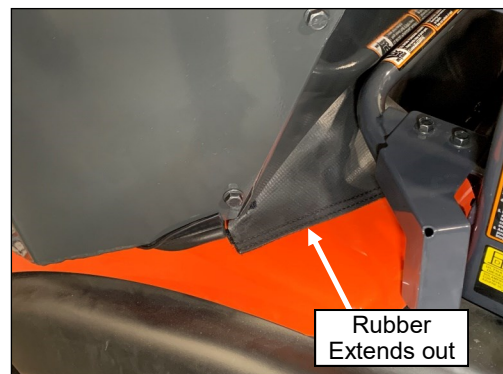

Fig. 10.5 (Filler Location)
10.5 See fig. 10.5. The back ends of the rubber filler should be pulled out under the cab so that they can be velcroed to the fenders behind the cab.